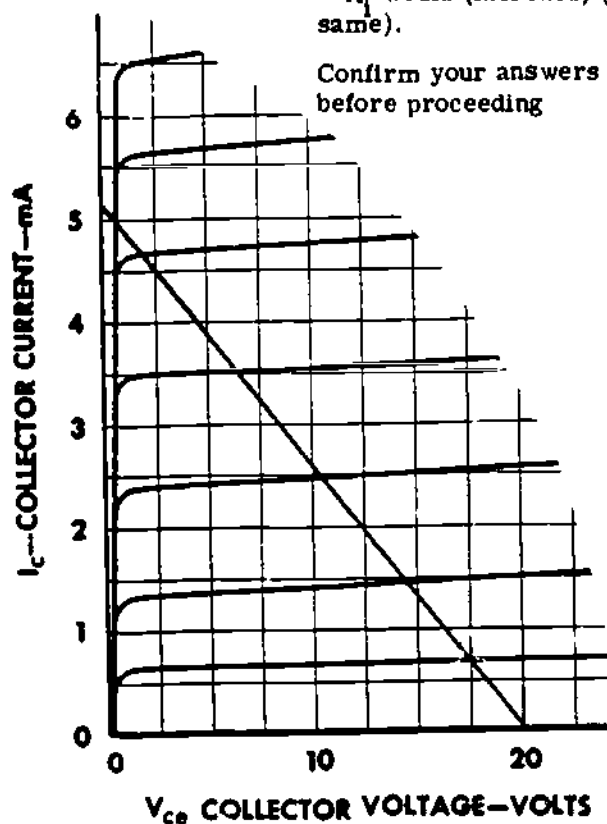

Figure 31-9. Load Line
i. The A_1 just determined is for an R_L of 3.9 k ohm and would be representative of the load line in figure 31-9.
(1) What should happen to A_1 if the slope of the load line were increased?